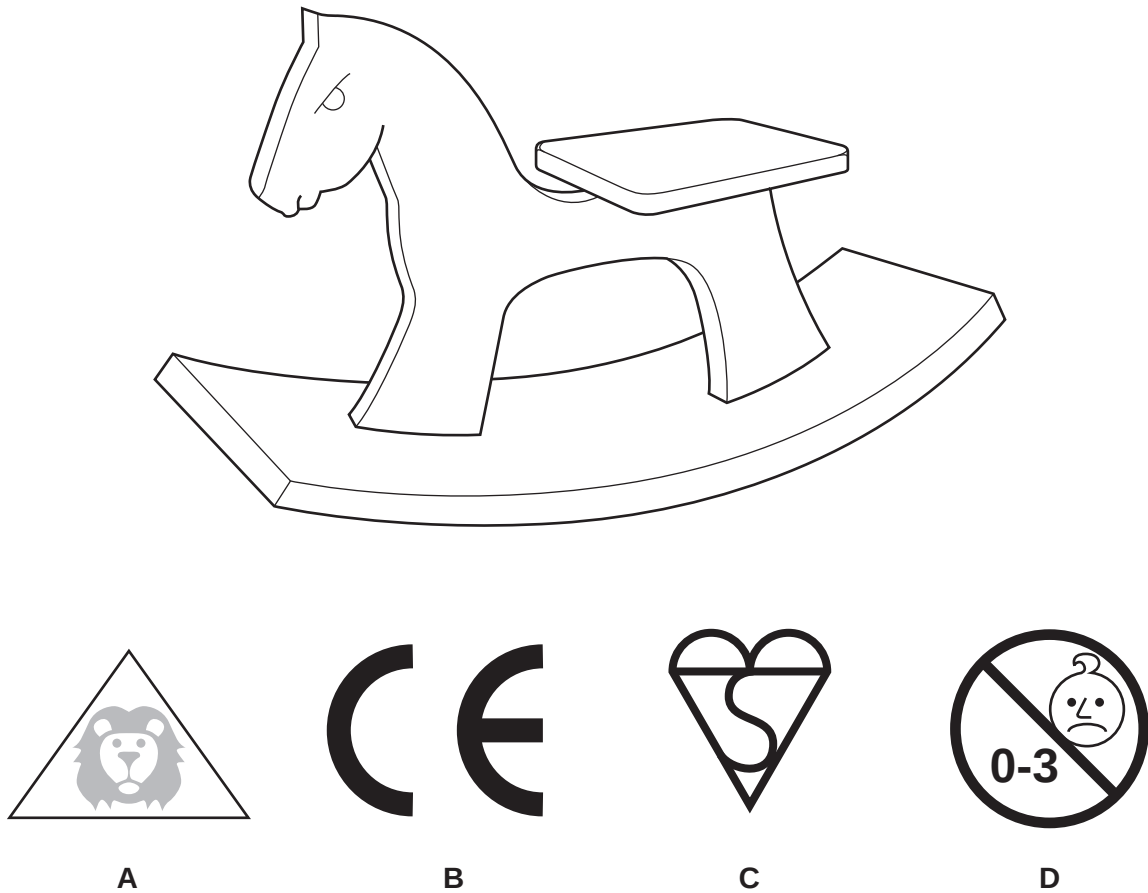

Fig. 7
- 5 Fig. 7 shows a design for a toy rocking horse and a range of symbols that manufacturers put on toys.